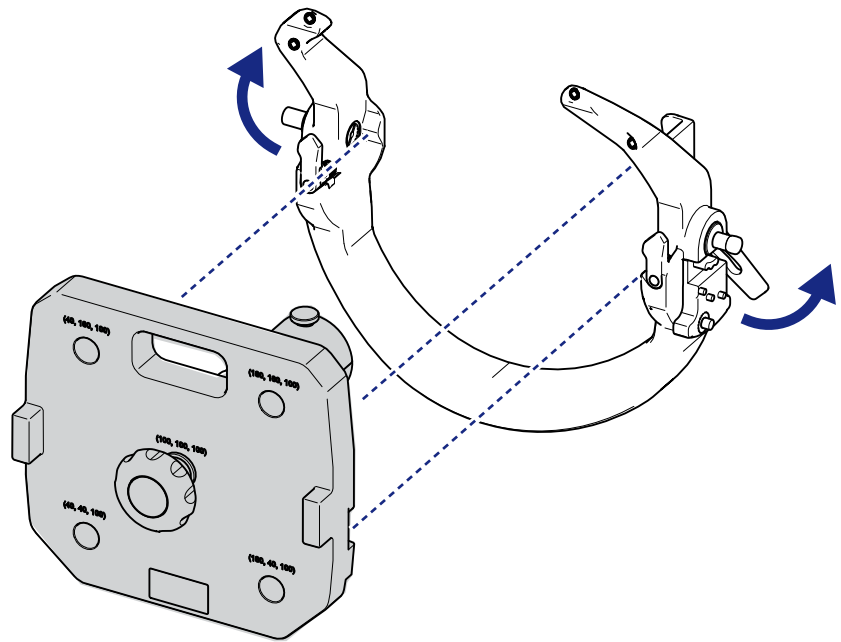

Figure 1.21 Attaching the Vantage frame adapter to the Film Holder Tool
- a Release the left and right levers on the Vantage frame adapter, see Figure 1.21.